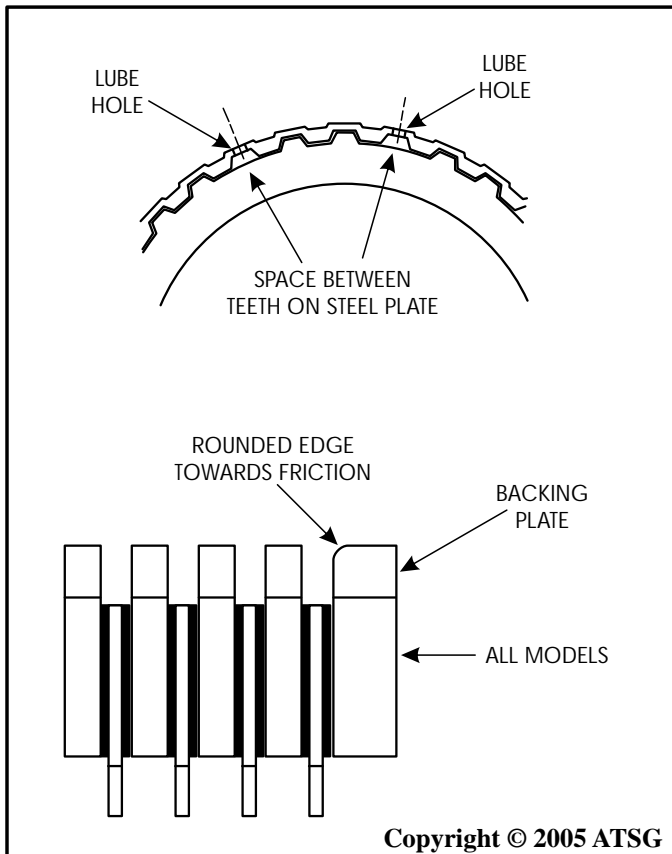

Figure 114
**Note:** When installing the steel plates, align them so that the places with no teeth will be aligned with the lube holes in the housing, as shown in Figure 114.
13. Install the underdrive clutch backing plate, as shown in Figure 114 and 115, with the rounded edge towards the friction.